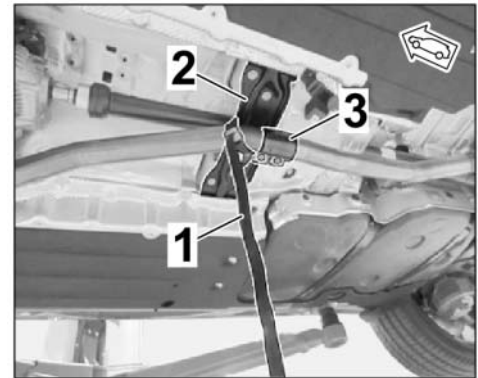

Figure 7
- 1.3.3 Secure catalytic converter exhaust pipe on the transmission support using restraining strap for securing loads, for example, to prevent it from bending down. ⇒ *Figure 7*